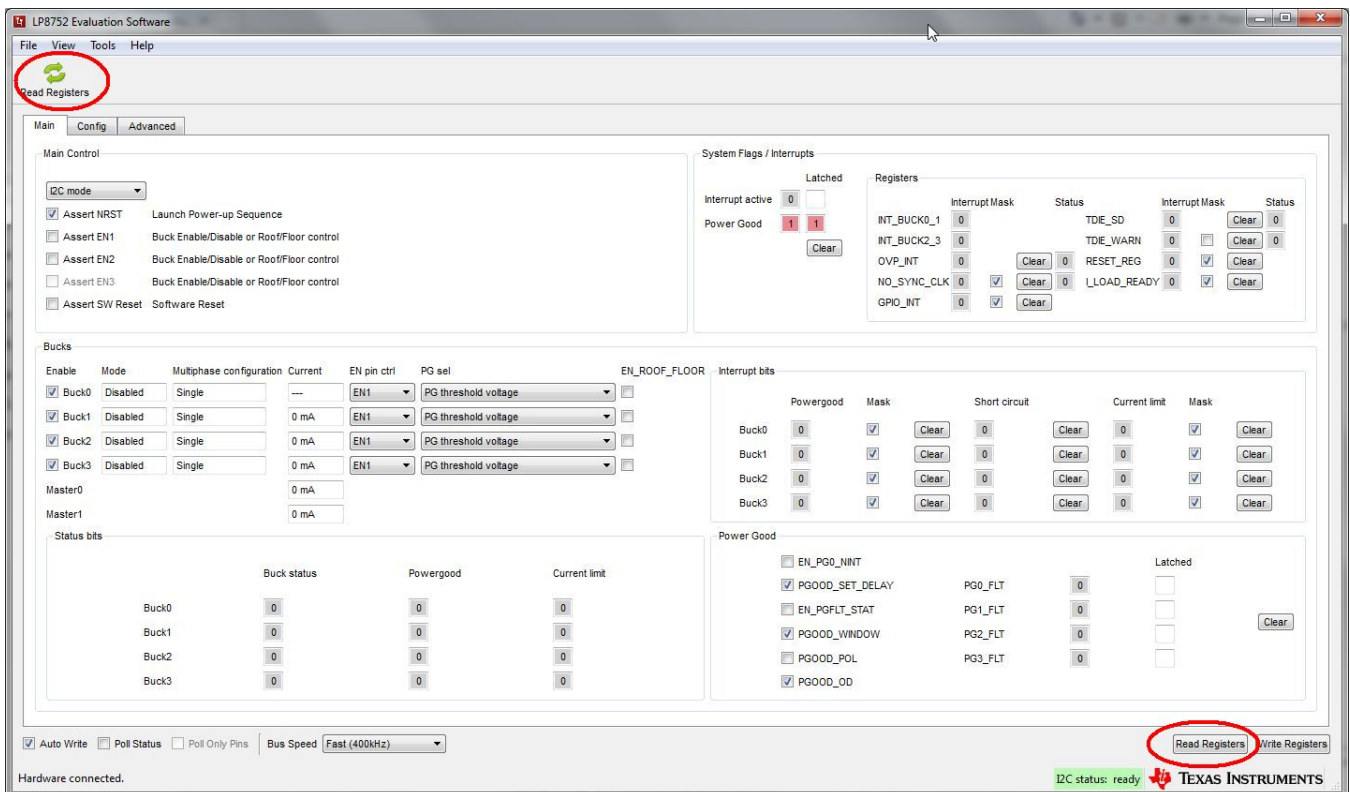

Figure 8. Read Registers -buttons.
2. Click on either of the two Read Registers buttons. You should see ready message on green background next to the Read Registers button (see Figure 8).